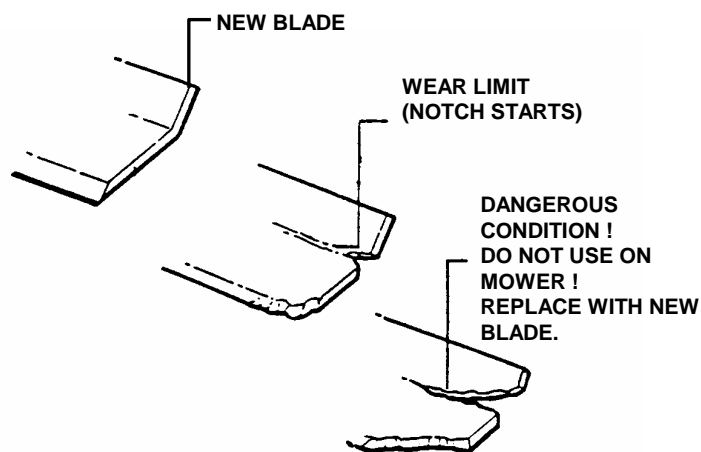

FIGURE 4.1
1. Inspect blade frequently for signs of excessive wear or damage. See Figure 4.1.
2. Replace the blade if it is badly chipped, bent, noticeably out of balance or has cracks or notch in either tip. See Figure 4.1. Replace with new blade.